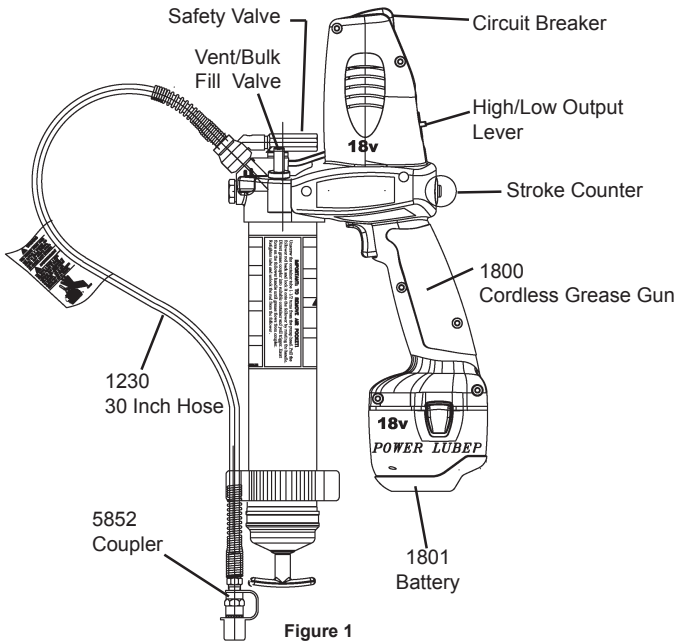

Figure 1
The safety valve (fig. 1) is factory set to relieve pressure above 7000 PSI (482 bar). The valve also is an indicator of the bearing and lubrication line conditions. If grease comes out of the relief valve, it indicates a clogged or tight bearing or fitting or line. Correct this before continuing lubrication with the PowerLuber.
The tool is equipped with capability for calibration. This is accomplished by measuring (weighing) grease flow output and dividing the weight of grease by number of strokes. Simply put your thumb on the stroke counter button (Fig. 1) during operation of the tool and count.
**When motor is not running**, push the lever (Fig. 1) until letter “L” or “H” will be completely visible in the window.
To prime, operate the gun until grease flows from the hose. Use vent valve (Fig.1) to expel air pockets.